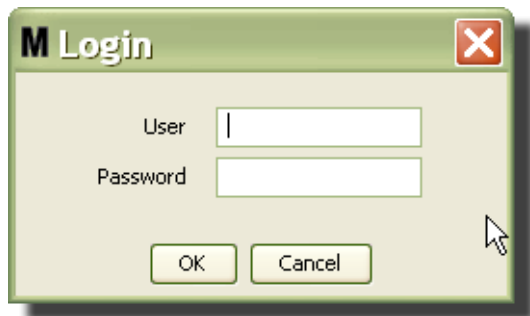

FIG. 205
3. The popup box shown in FIG. 205 appears for you to provide a User Name and Password.